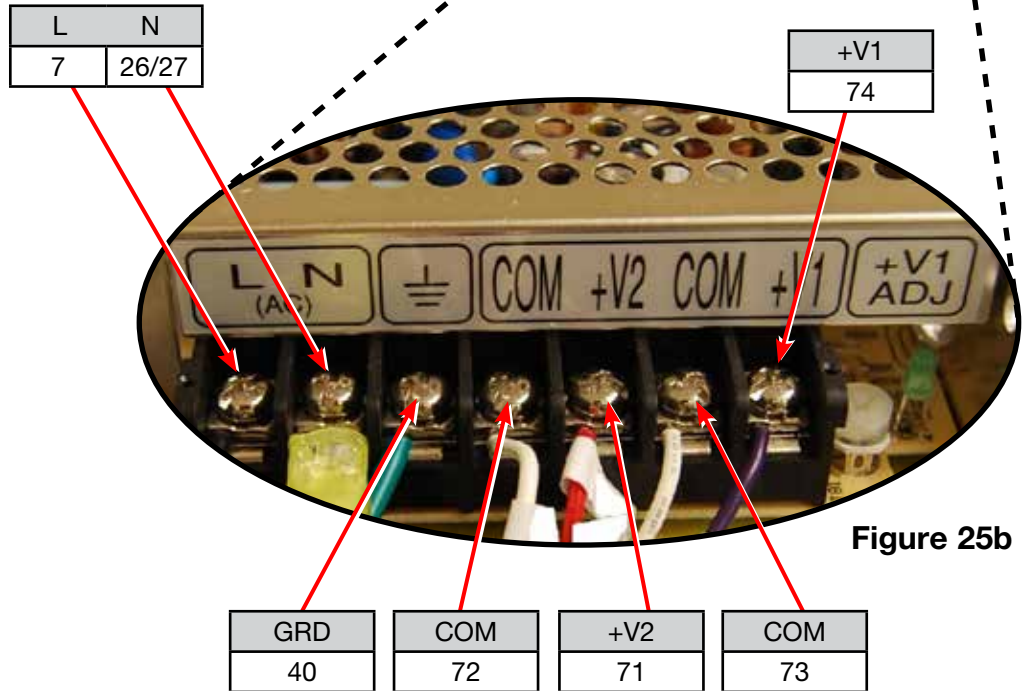

Figure 25b
2. Reattach contacts according to Figure 25b.